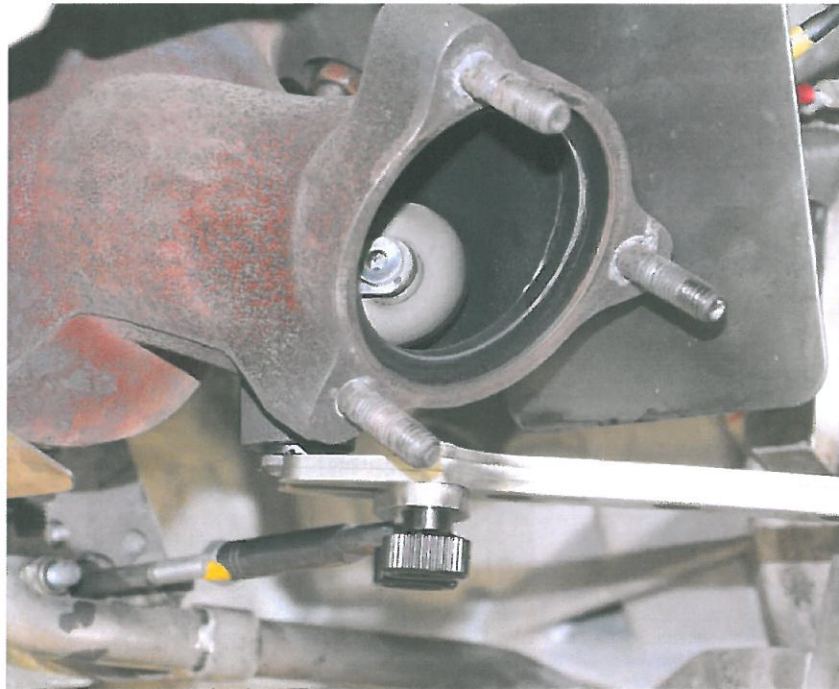

Fig. 4 *Installation of the drill guiding tool*
7. *Install the drill guiding tool to the counter support. Attach the guiding tool with the two screws of the tool set on the counter support. See Figure 4.*